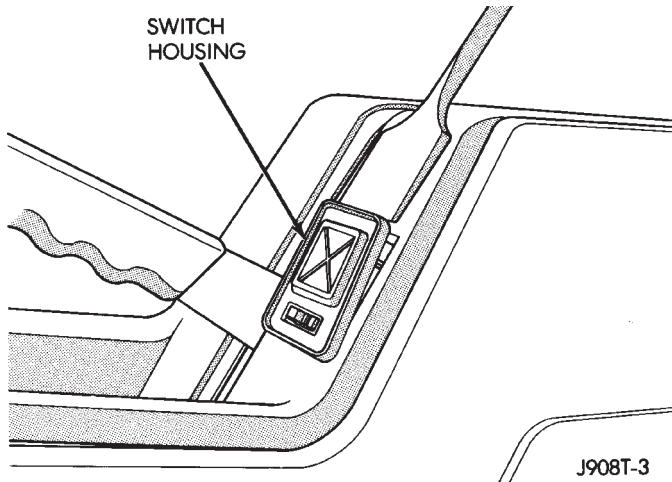

Fig. 1 Power Mirror Switch Remove/Install
- (1) Disconnect battery negative cable.
- (2) Using a wide flat-bladed tool, pry the switch housing away from the center console (Fig. 1).